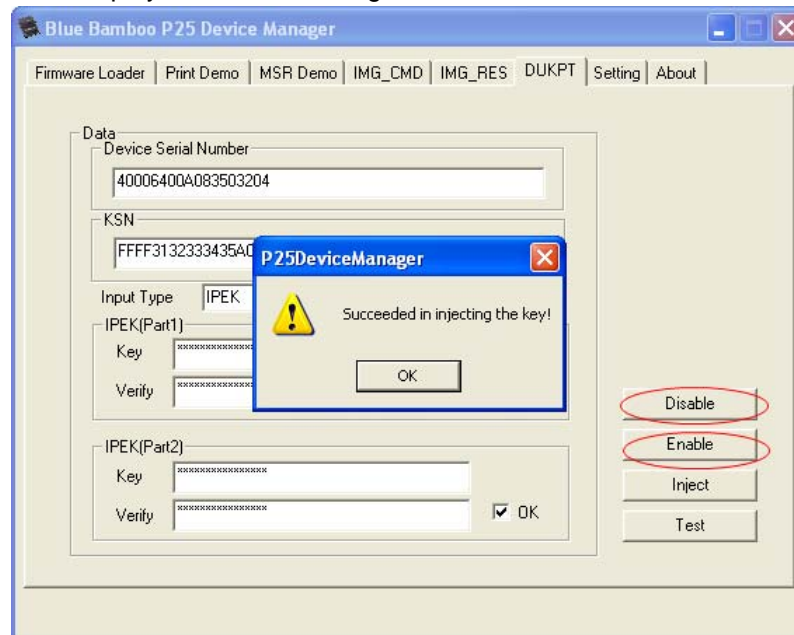

Figure 55
- e. Click **Disable** button to disable the key, click **Enable** button to enable the key. Success message will be displayed as shown in Figure 55